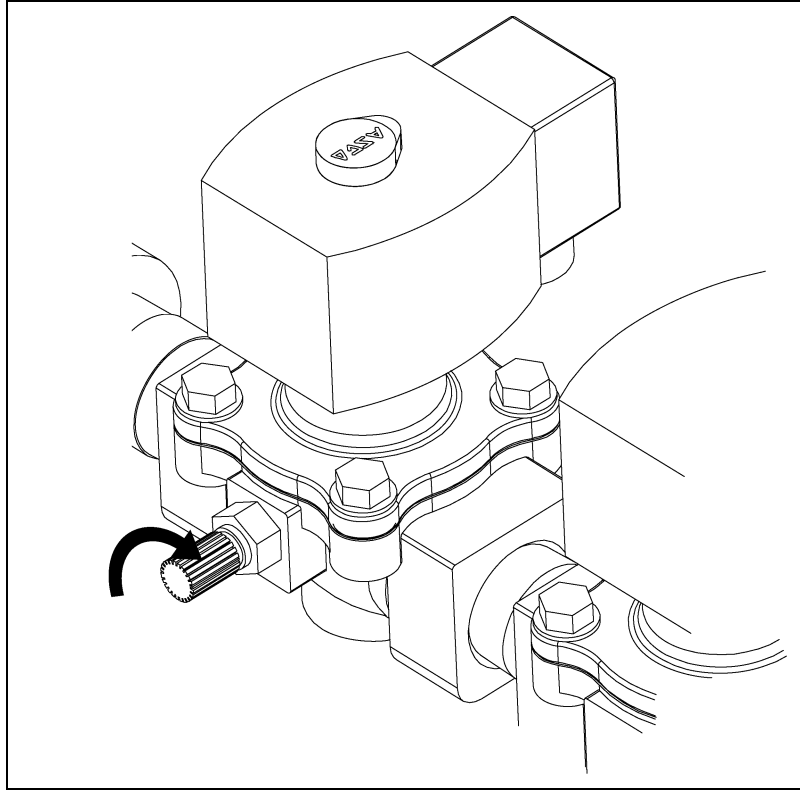

Figure 5U
4. Reduce low-fire flame, so that flame is stable and does not 'pop'. (See Figure 5U.)